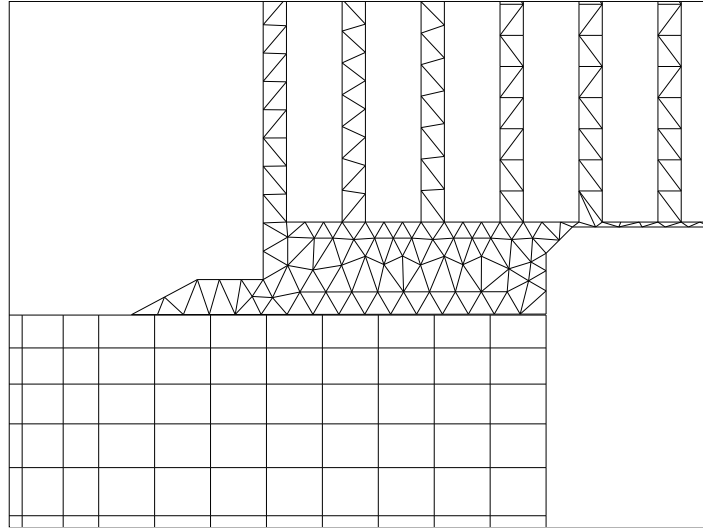

Figure 9.1.9: Example of a Non-Conformal Interface
- You may choose to use a non-conformal interface to define the computational domain. This type of interface allows you to relax the requirement for point-to-point matching at the interface between the grids, as illustrated in Figure 9.1.9.